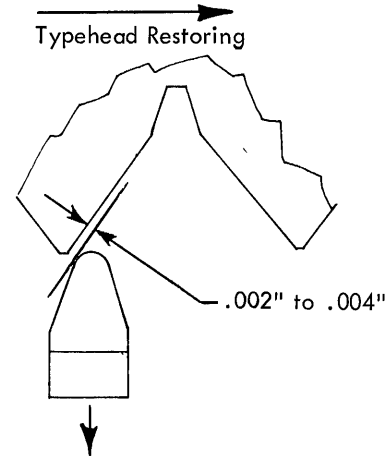

FIGURE 131. Withdrawal Clearance For The -5 Character
13. **Print Shaft Timing** - Advance or retard the print shaft relative to its gear to obtain the proper timing of the rotate detent. Hand-cycle an upper case -5 character and observe the rotate detent as it operates in the typehead notch. The detent must enter the correct detent notch and withdraw without restricting the restoring of the typehead. There should be .002" to .004" backlash felt in the typehead when the detent is near the bottom of the detent notch (Fig. 131).